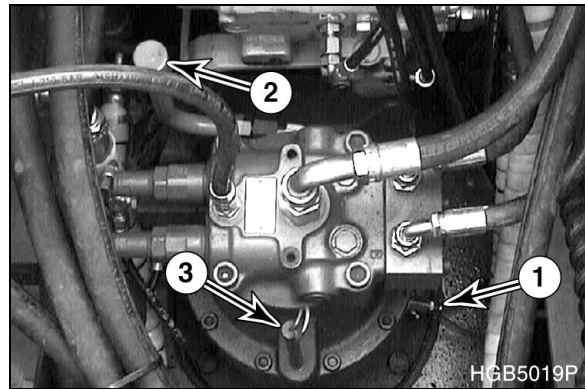

Figure 69
- Remove breather/fill cap (2, Figure 69) and add oil to "H" mark on dipstick (1, Figure 69)